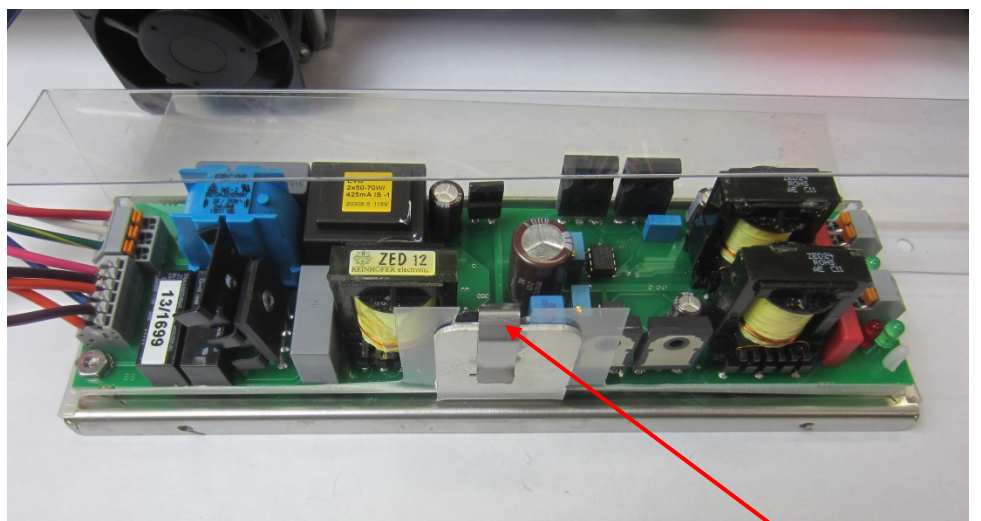

Figure 6-24-2
12. Carefully lift the Ballast out of the Raceway and place on the work table (Refer to Figure 6-24-2).
13. Remove the spring clip located in the front center of the Ballast (Refer to Figure 6-24-2).